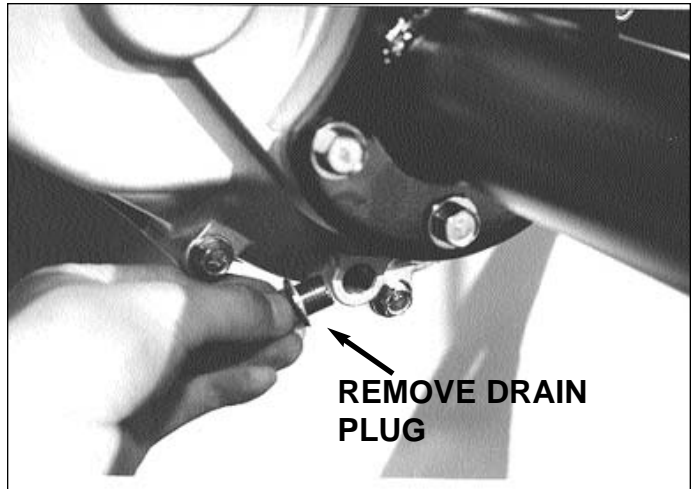

Figure 19 - Drain Oil
1. Remove the oil drain plug (M14) and drain the oil from transaxle. Always, drain oil into a clean pan in case inspection is required. Replace gasket if damaged. See Figure 19.